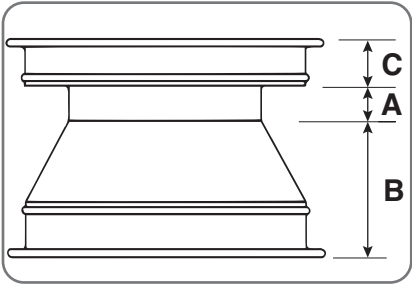

Fig. 6.1
See (Fig.6.1). Find the position of the channel (A) on the rim. Find the largest width (B) and the smallest width (C). The tyre must be mounted and demounted with the wheel on the turntable with the smallest width side (C) facing upwards.